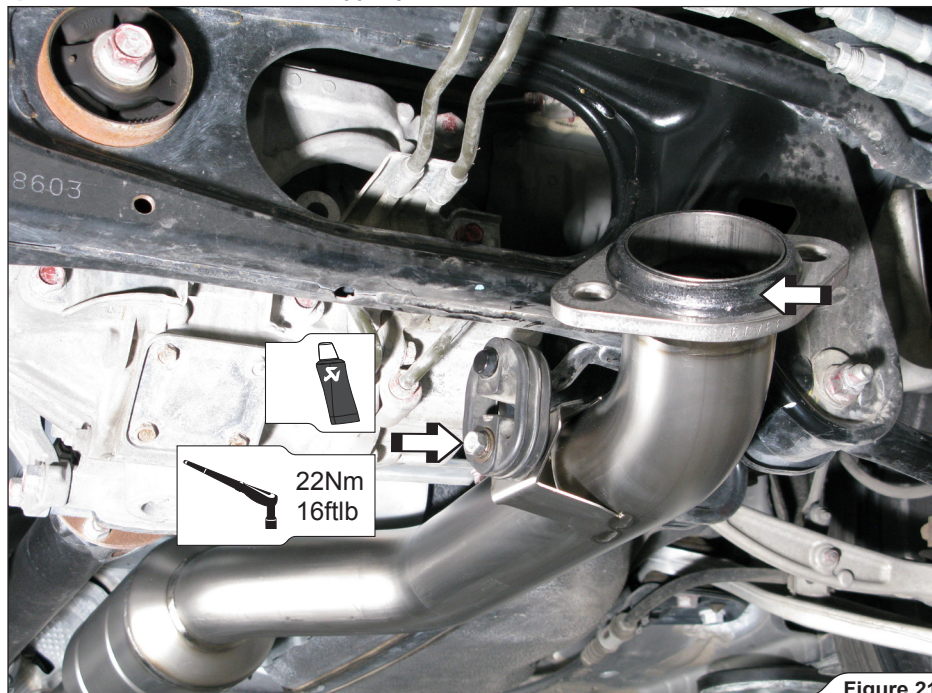

Figure 21
10. **For Evolution only:** slide the middle pipe onto the front pipe. Tighten the stock rubber bracket onto the middle pipe and install the graphite gasket onto pipe's outlet (**Figure 21**).